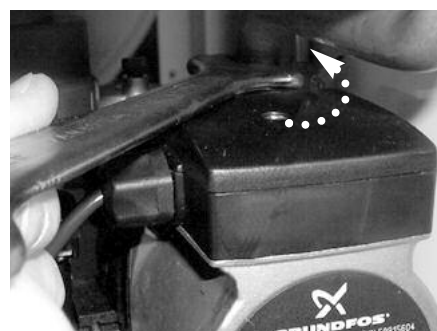

Fig. 92
5. Unscrew the pump nut (see Fig. 92);